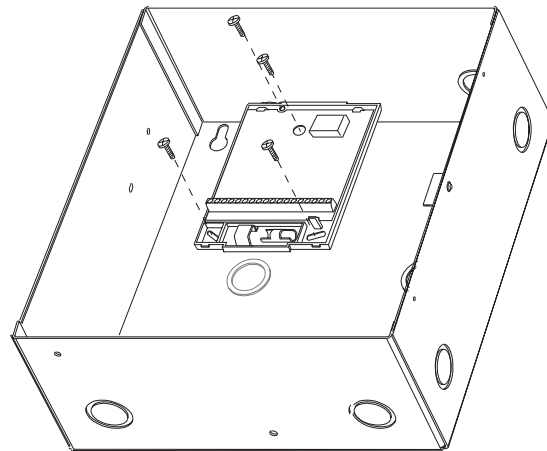

Figure 2. SuperBus Accessory Enclosure
3. Place the back plate inside the cabinet and line up the module mounting holes with the cabinet mounting holes (Figure 2).